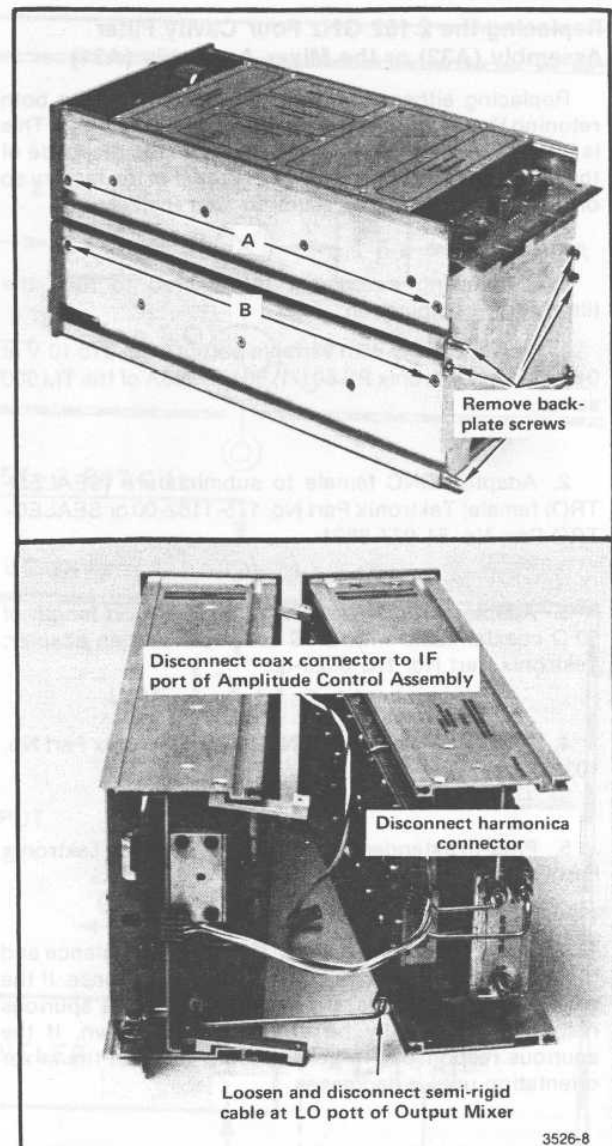

Fig. 5-5. Procedure for separating the two sections of the TR 503.
b. Remove the four screws holding the top section to the U-shaped coupling blocks. Refer to the arrows marked "A" in Fig. 5-5. Loosen the four screws holding the bottom section to the U-shaped coupling blocks (marked "B").